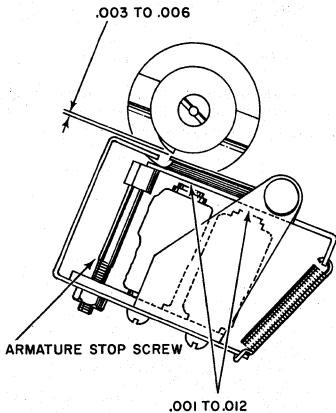

Figure 1
1. Loosen the locking nut and set the armature stop screw so there is .001" to .012" clearance between the armature (manually attracted) and each coil core (Figure 1.)